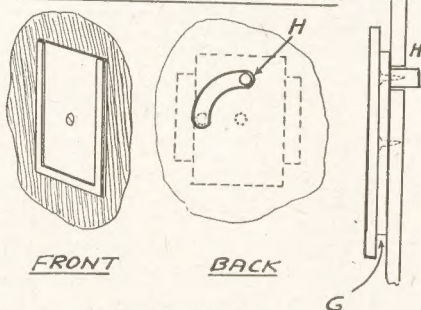

Fig. 2—Swivel holder for the prints
To fit the holder, first glue the spacer (G), 3 ins. by 2 ins., (Fig. 2), at the back to allow countersinking the head of the screw that secures the frame to the back and upon which it rotates. If the head is not countersunk it will catch the prints as they are slipped in and out.
Finally, as far as this part is concerned, fit the knob (H) and cut a circular channel for it in the back, shown also in Fig. 2, so the holder can be readily turned.